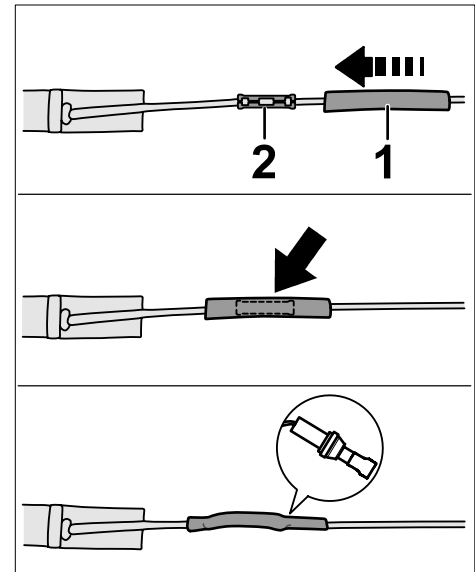

Figure 10
- 3.4 Pull shrink-fit hose ⇒ *Figure 10 -Pos. 1-* over the insulated cable connection ⇒ *Figure 10 -Pos. 2-* and center it ⇒ *Figure 10 -Arrow-*. Then heat it using the heat gun until the contours of the insulated cable connection are drawn through the shrink-fit hose ⇒ *Figure 10 -bottom-*.